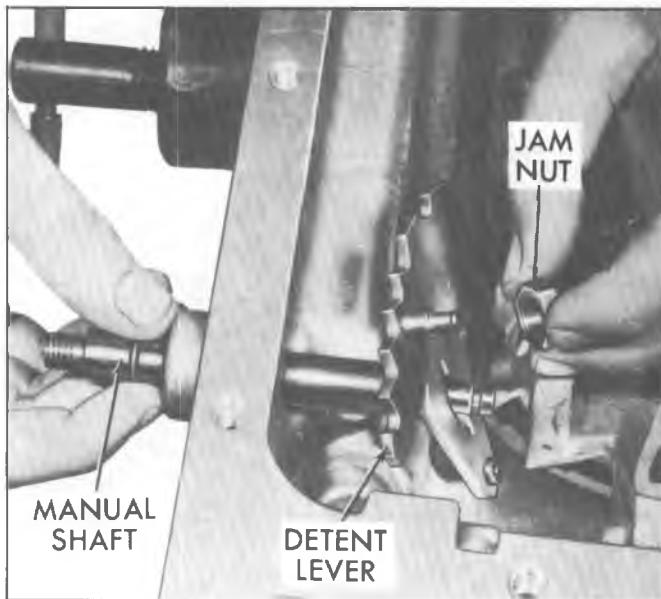

Fig. 7A-22C--Removing Detent Lever and Jam Nut from Manual Shaft
5. Remove attaching screws and parking bracket (Fig. 7A-23C).